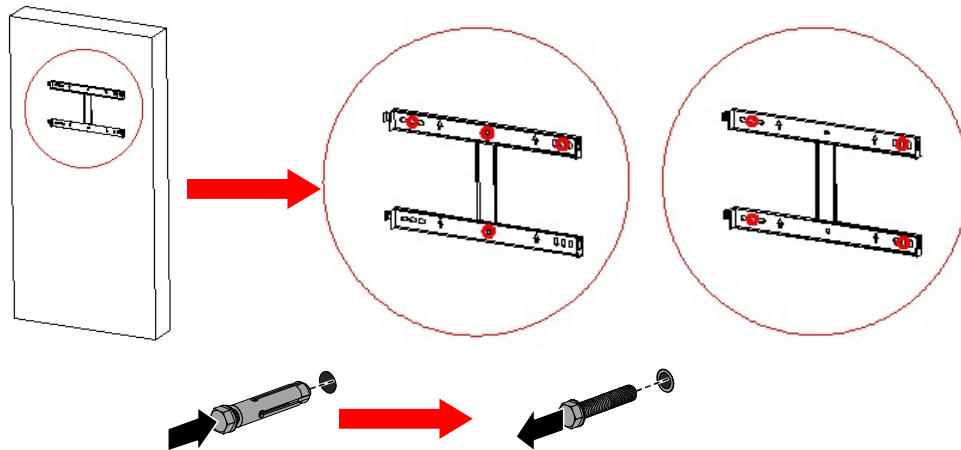

Figure 2.8 Stand Positioning
Step 3: use the percussion drill (M12 drill) to drill holes in the wall (there are two methods to position the holes), then install and place the stand. Firstly insert the expansion pipe into the drilled hole. Then pass the tapping screw through the spacer and tighten it with the cross screwdriver, as shown in Figure 2.8.